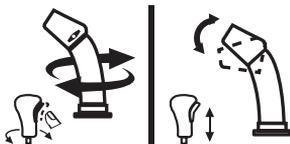

Figure 68
- To change the direction in which snow is thrown, squeeze the button on the control and rotate to the right or to the left (Figure 68).